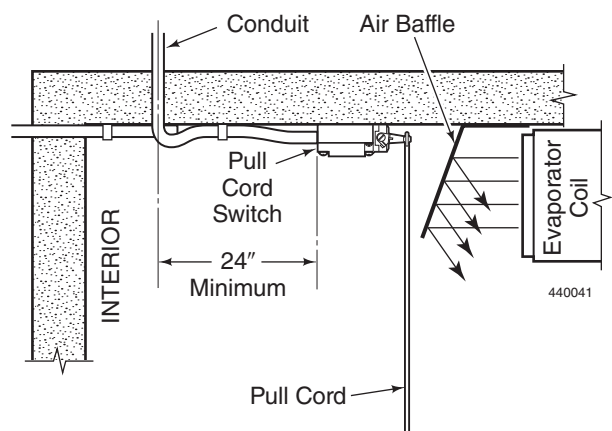

Figure 39
2. Mount the pull cord switch to the wall or ceiling using the switch mounting holes or the mounting plate provided. Locate the switches at least 24" from the conduit penetration through the ceiling or wall. See *Figure 39*.